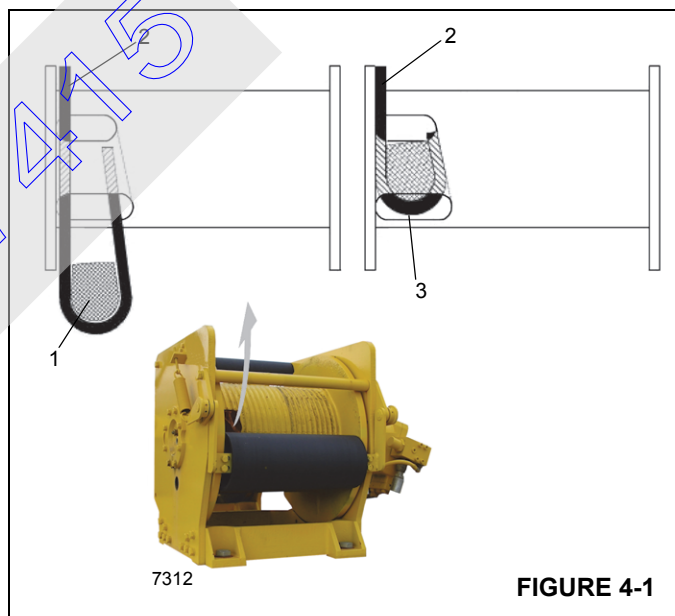

FIGURE 4-1
3. Insert the cable through the slot and position around the anchor wedge (1) Figure 4-1.